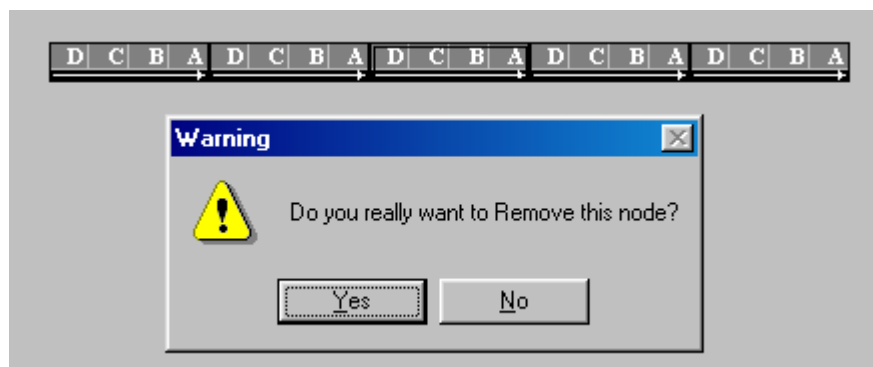

Fig. 4.24
- Click on **Remove** item to open the dialog box shown in Fig. 4.24.